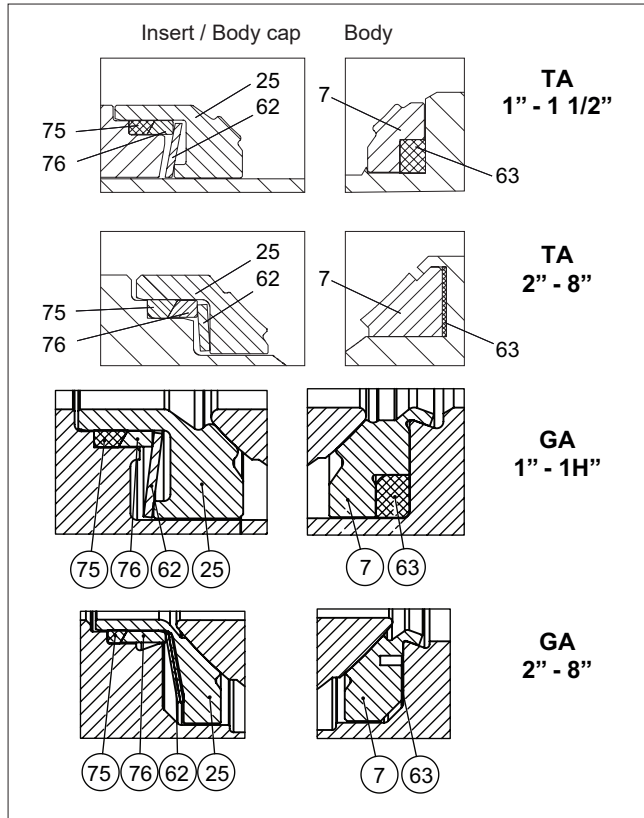

Fig. 23 H seats
- Place the back seal (63) into the body counterbore. Then place the seat (7) into the body counterbore, see Figure 23.
- Place the back seal (75), back-up ring (76), spring (62) and the seat (25) into body cap, Figure 23.